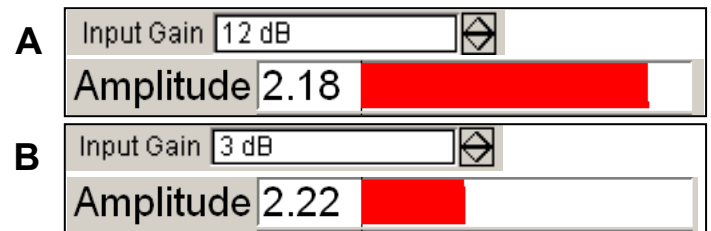

Figure 6.1.11: decreasing the 'Input Gain' to increase the dynamic range.
- By decreasing the Gain value (in dB), the dynamic range is increased (in volts), while the bits/V is decreased. Figure 6.1.11 shows an example of this- decreasing the input gain, causes the scale of the amplitude range to become larger (B).